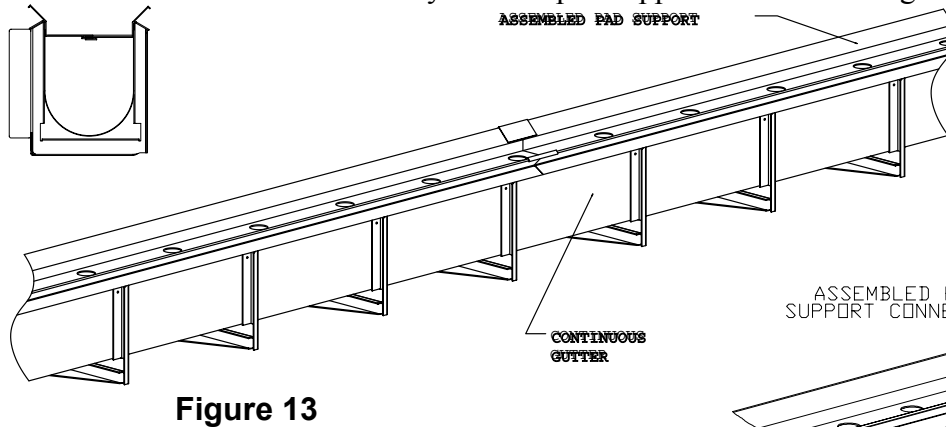

Figure 13
- J) Place the pad support assemblies into the gutter as shown in Figure 13. Slide the pad support connectors onto the adjacent pad supports. The pad support connectors should set halfway on each pad support as shown in Figure 14.